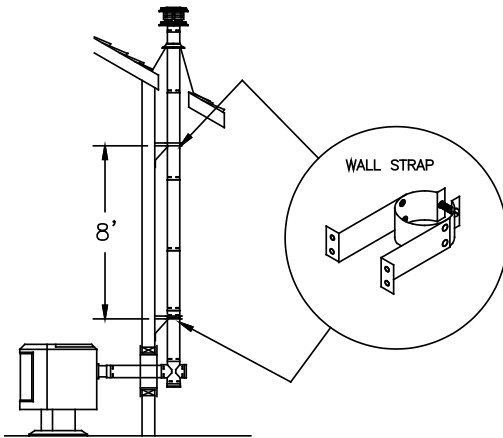
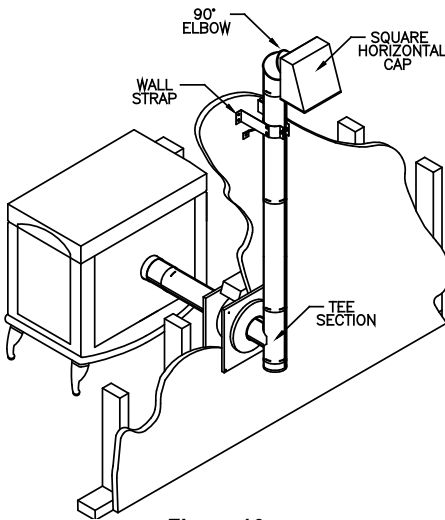

Figure 15
Figure 16
D. Attach Wall Strap just above the tee. Wall Straps must be placed every 8-feet along an exterior vertical run (**Figure 15**). If your exterior vertical run terminates horizontally before penetrating the roofline, install at least one Wall Strap on the Pipe Section before 90 Degree Elbow and Horizontal Cap (**Figure 16**). Under no circumstances can a Vertical Cap be installed adjacent to vertical wall. Secure Pellet Vent offers fixed and Adjustable Wall Straps to maintain a 1"-3" clearance, as desired. If Assemble Pipe Sections in the same manner described in Step 2 of the general instructions.